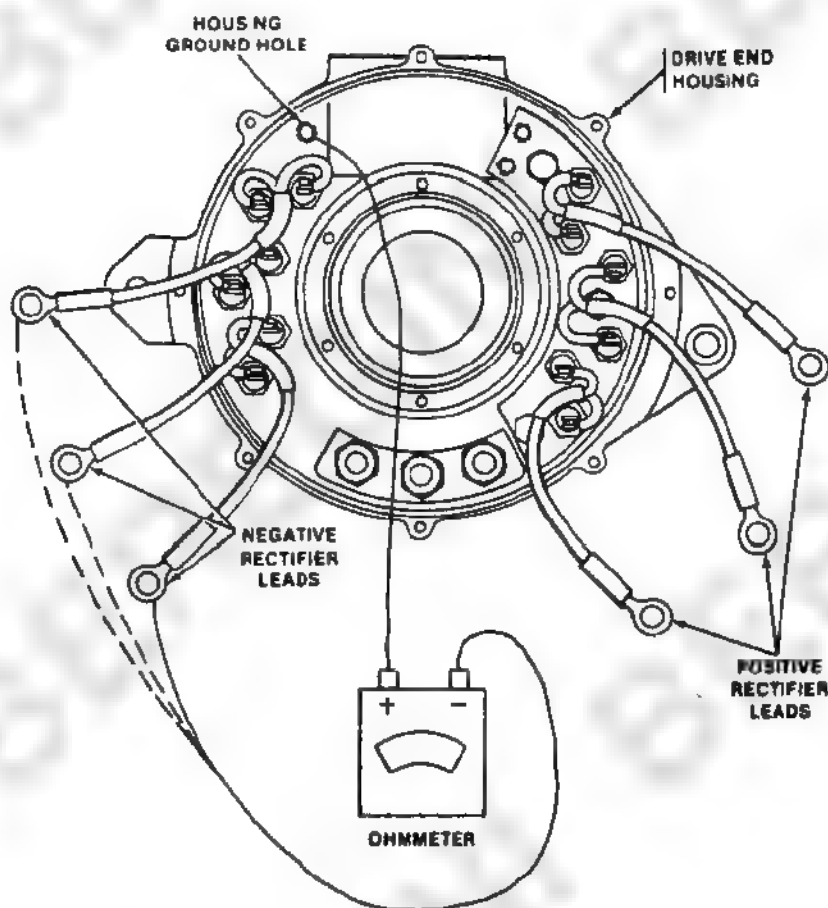

Figure 2-5. Open Negative Rectifier Test.
Step 7. Check for open negative rectifiers. Connect ohmmeter to each of the three negative rectifier leads in accordance with figure 2-5.